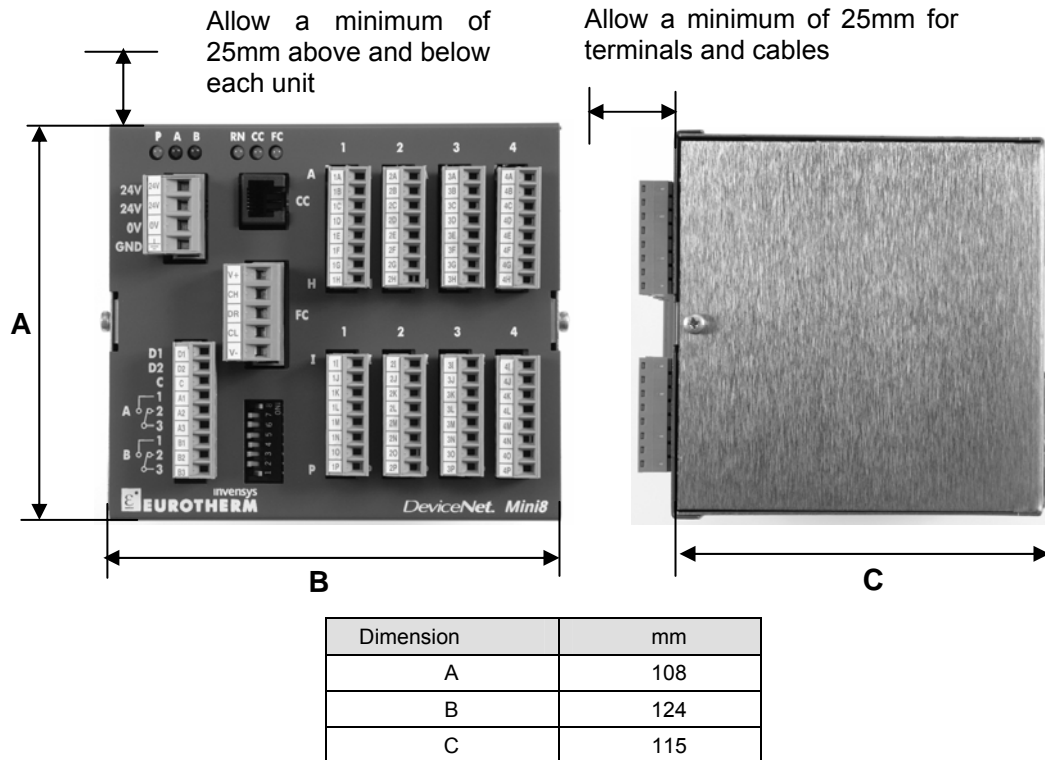

Figure 1-1: Mini8 Dimensions
2. Mount the DIN Rail horizontally as indicated in Figure 1.1. The Mini8 is NOT designed to be mounted in other orientations.